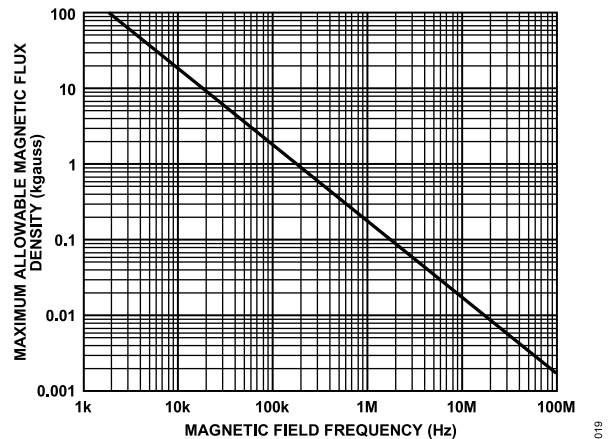

Figure 19. Maximum Allowable External Magnetic Flux Density
0.5 V margin at the decoder, a maximum allowable magnetic field is calculated, as shown in Figure 19.